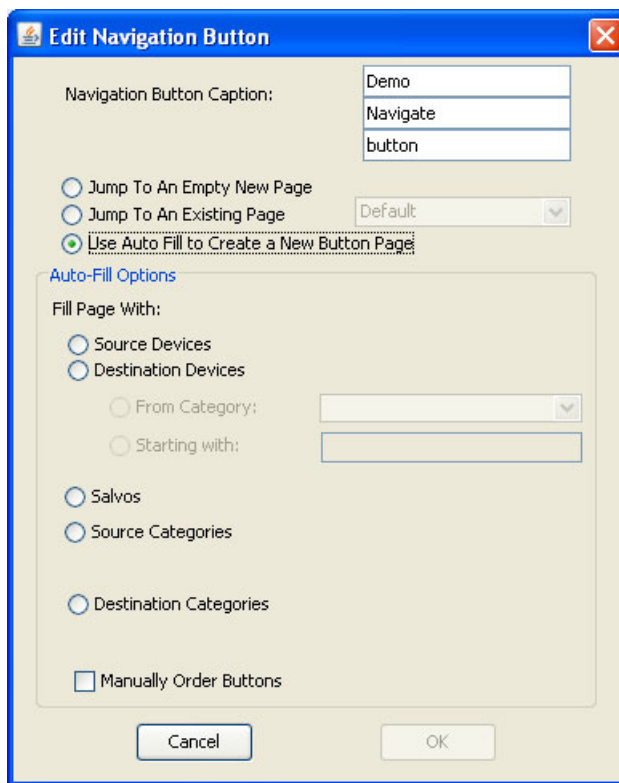

Figure 11-47. Edit Navigation Button Dialog Box - Auto Fill Activated
- Use Auto-Fill to Create a New Button Page—Activates auto-fill options. Auto fill automatically generates a number of button assignments on one or more subpages as defined in the 'Edit Navigation Button' dialog box, as shown in Figure 11-47. Go to step 5. If 'Use Auto Fill....' is left unchecked, the subpage has no new buttons assigned (except for those specified as 'Place this button on all child pages').